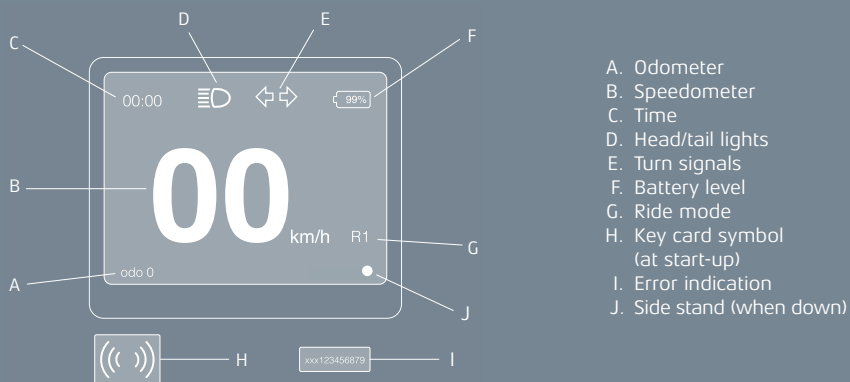

Fig. 7
- Start using Ride mode 1, see Fig. 7, to get used to how an electric motor vehicle works. The motor/throttle is very sensitive.